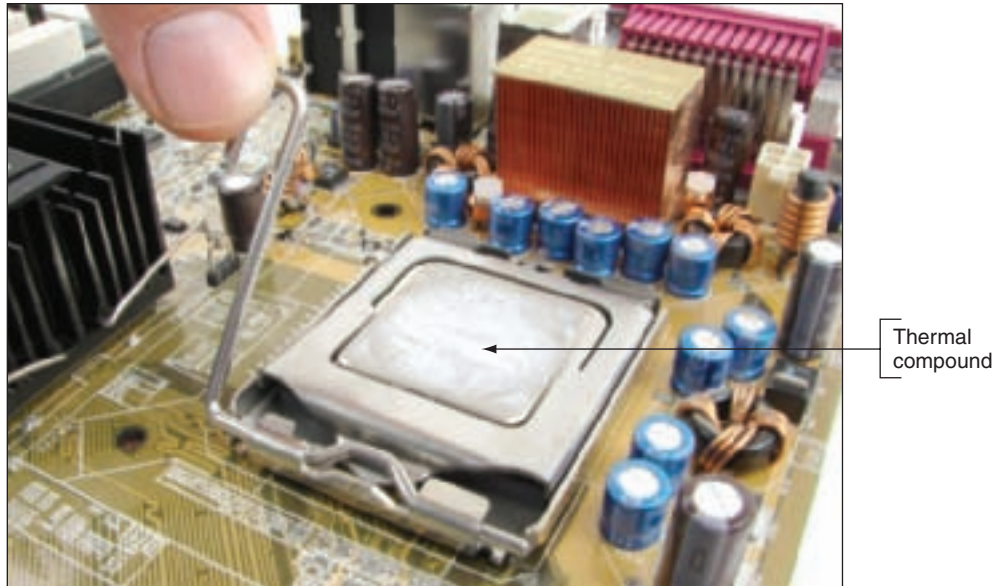

Figure 6-37 Force is applied to the processor when the lever is pushed into position
4. Close the socket cover. Push down on the lever and gently return it to its locked position (see Figure 6-37).